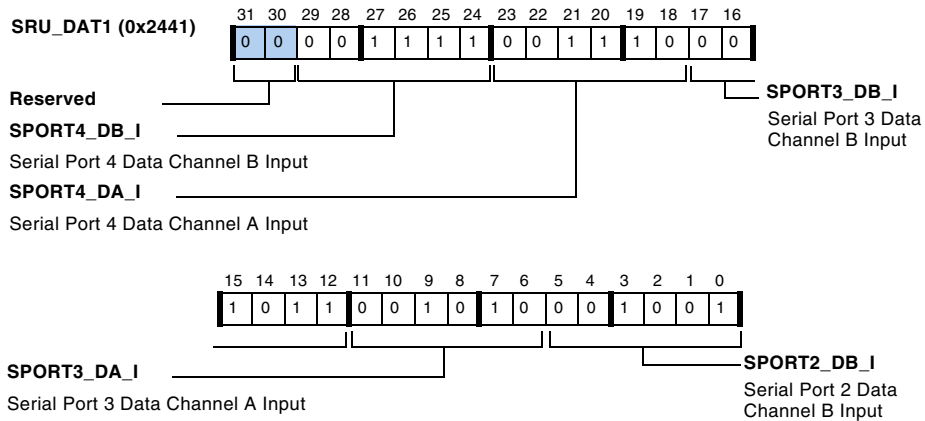

Figure A-39. SRU\_DAT1 Register
- `SRU_DAT1`, described in Figure A-39